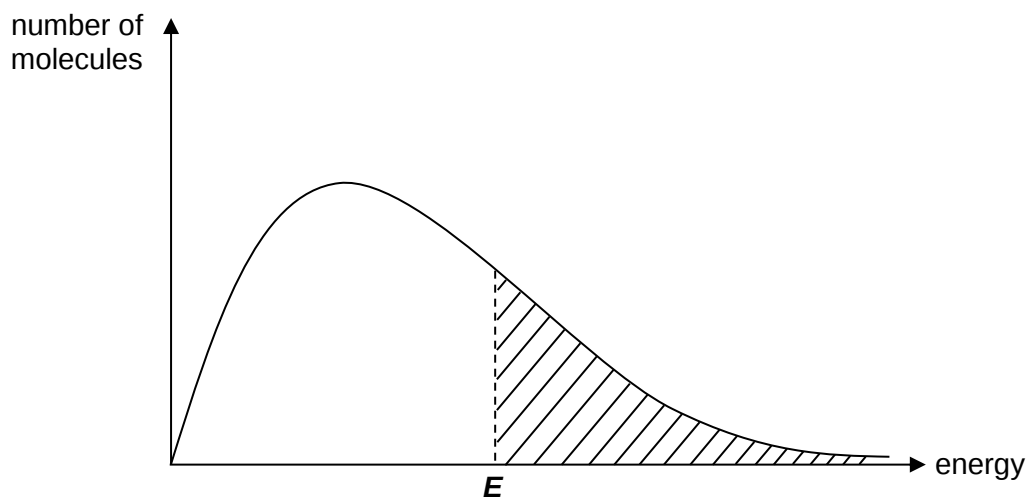

Fig. 10.2
- (c) The Maxwell–Boltzmann distribution shows how the energy of particles within a gas are distributed, as shown in Fig. 10.2. The shaded area under the curve represents the total number of molecules that have energy equal to or above a particular energy level, E .